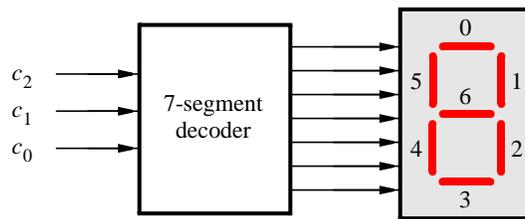

Figure 6. A 7-segment decoder.
Figure 6 shows a 7-segment decoder module that has the three-bit input $c_2c_1c_0$. This decoder produces seven outputs that are used to display a character on a 7-segment display. Table 1 lists the characters that should be displayed for each valuation of $c_2c_1c_0$. To keep the design simple, only four characters are included in the table (plus the 'blank' character, which is selected for codes 100 – 111).
2. Create a VHDL entity for the 7-segment decoder. Connect the $c_2c_1c_0$ inputs to switches SW_{2-0} , and connect the outputs of the decoder to the *HEX0* display on the DE2 board. The segments in this display are called $HEX0_0, HEX0_1, \dots, HEX0_6$, corresponding to Figure 6. You should declare the 7-bit port